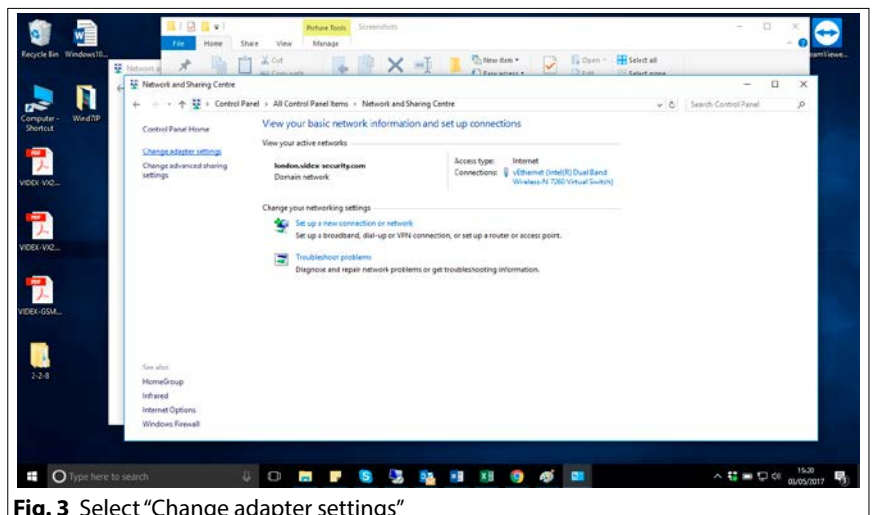
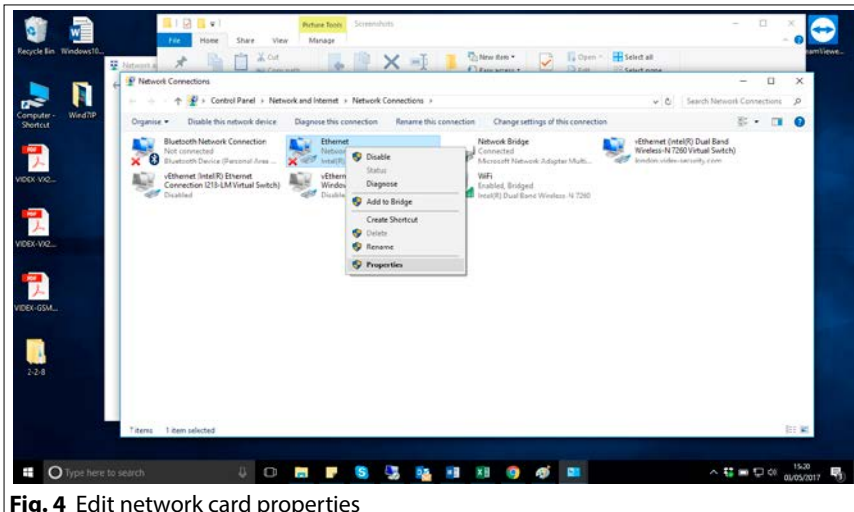

Fig. 3 Select "Change adapter settings"
Fig. 4 Edit network card properties
- Put the base of the unit on the wall at approx 135cm from the finished floor (Fig. 3) to mark the points for the fixing holes (B) (Fig. 4) remembering that the wires (E) (Fig. 4) must be fed through the hole (F) (Fig. 4). If you use the flush mounting box 503, embed it into the wall vertically at approx. 140cm from the finished floor and the base.
- Following Fig. 4, make the holes (B), insert the wall plugs (C) and fix the base with the screws (D) feeding the wires (E) into the hole (F). If you have used the box 503, fix the base to the wall through the holes (G) using the screws (D).